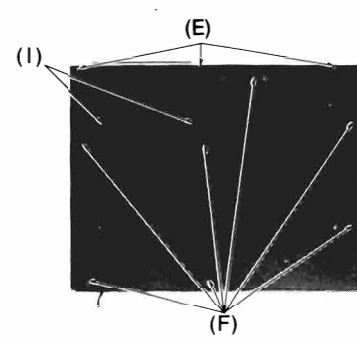

Fig. 3
B Head azimuth adjustment Condition: * Playback mode Equipment: * VTVM * Oscilloscope * Test tape (azimuth) ... QZZCFM	L-CH/R-CH output balance adjustment 1. Make connections as shown in fig. 2. 2. Playback the 8kHz signal from the test tape (QZZCFM). Adjust screw (B) in fig. 3 for maximum output L-CH and R-CH levels. When the output levels of L-CH and R-CH are not at maximum at the same time, readjust as follows. 3. Turn the screw (B) shown in fig. 3 to find angles A and C (points where peak output levels for left and right channels are obtained). Then, locate the angle B between angles A and C, i.e., a point where L-CH and R-CH output levels come together at maximum (Refer to figs. 3 and 4). L-CH/R-CH phase adjustment 1. Make connections as shown in fig. 5. 2. Playback the 8kHz signal from the test tape (QZZCFM). Adjust screw (B) shown in fig. 3 so that pointers of the two VTVMs swing to maximum and a waveform as illustrated in fig. 6 is obtained on the oscilloscope.  Fig. 2  Fig. 3  Fig. 4  Fig. 5  Fig. 6